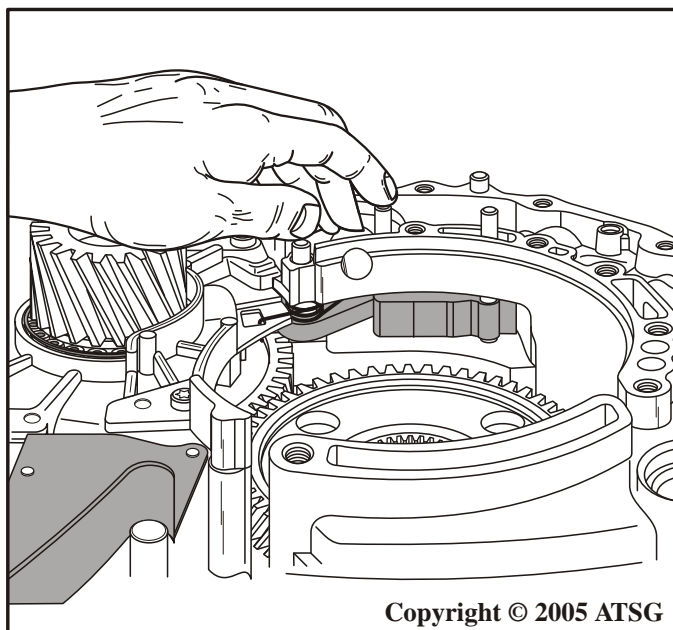

Figure 166
27. Push the pins down as far as they will go, by **hand only**, as shown in Figure 166.